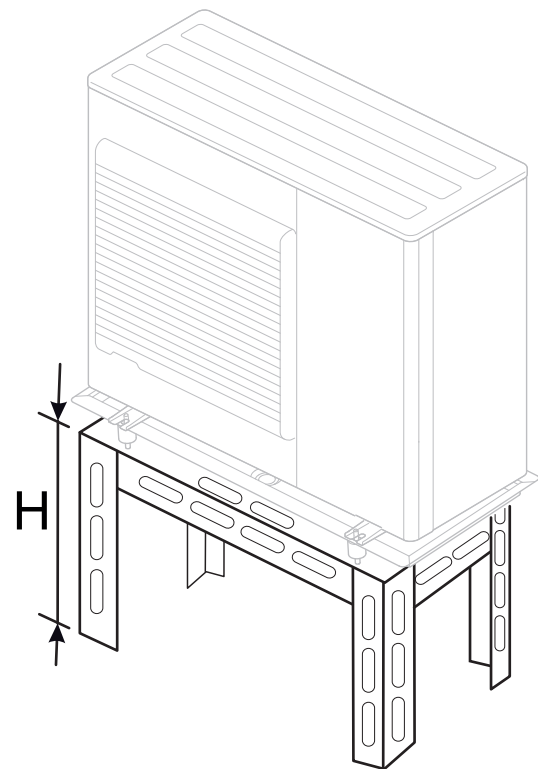

fig. 14 - Installation of the outdoor unit evacuation of condensates
- Water may flow out of the outdoor unit when it is operating. Do not install the outdoor unit on a paved terrace; choose a well-drained location (e.g. gravel or sand). If installation is carried out in an area where the temperature stays below 0°C for long periods, check that the presence of ice does not present any danger. A drain pipe can also be connected to the condensate drain pan (optional) (fig. 14, page 19).